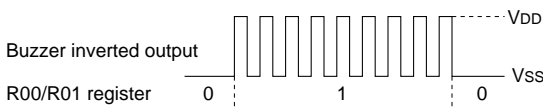

Fig. 4.3.6 Output waveform at buzzer inverted output selection
- When the R00 register is set to "1", 50% duty and VDD–VSS amplitude square wave is generated at the specified frequency by the software. When set to "0", the R00 terminal goes low (VSS). The clock phase when buzzer drive signal is output from R00 terminal is antiphase to that of the R01 terminal. Output waveform is shown in Figure 4.3.6.
- When the R01 register is set to "1", 50% duty and VDD–VSS amplitude square wave is generated at the specified frequency by the software. When set to "0", the R00 terminal goes low (VSS). The clock phase when buzzer drive signal is output from the R00 terminal is antiphase to that of the R01 terminal. Output waveform is shown in Figure 4.3.6.